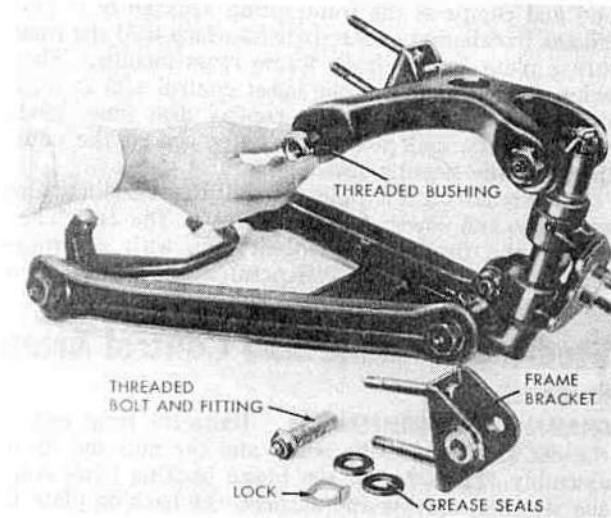
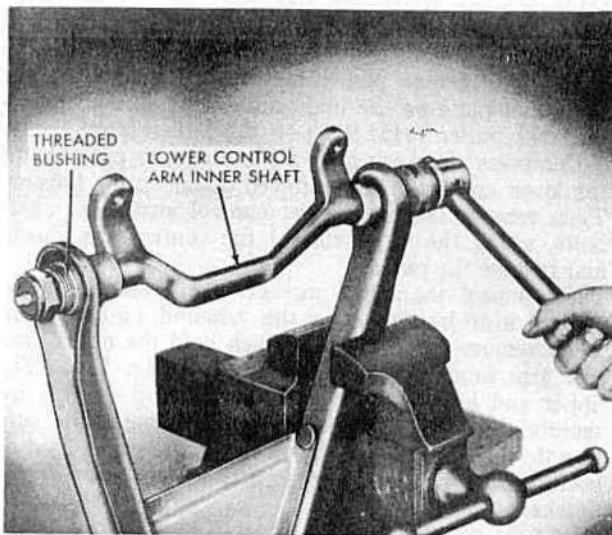

FIG. 188
FIG. 189
**CHAMPION AND COMMANDER** After removing the threaded bolts from the inner ends of the upper control arm, remove the control arm brackets, locks, and rubber seals. Continue the disassembly of the front suspension by removing the two threaded bushings from the inner ends of the upper control arm (see Fig. 188). Then remove the threaded bushings from the inner ends of the lower control arm and remove the lower control arm inner shaft and rubber seals (see Fig. 189).